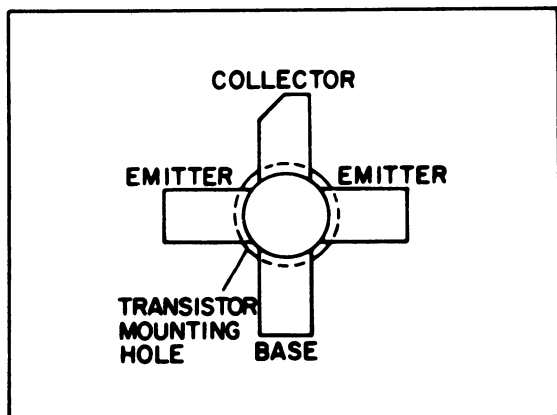

Figure 1 - Lead Identification
4. Trim the new transistor leads (if required) to approximately 3/8-inch lengths. Cut the collector lead at a 45° angle for future identification (see Figure 1). The letter "C" on the top of the transistor indicates the collector.